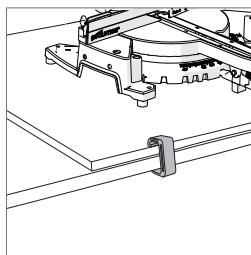

Fig. 2
- Use G-clamps to attach the mounting board to the work surface. (Fig. 2)